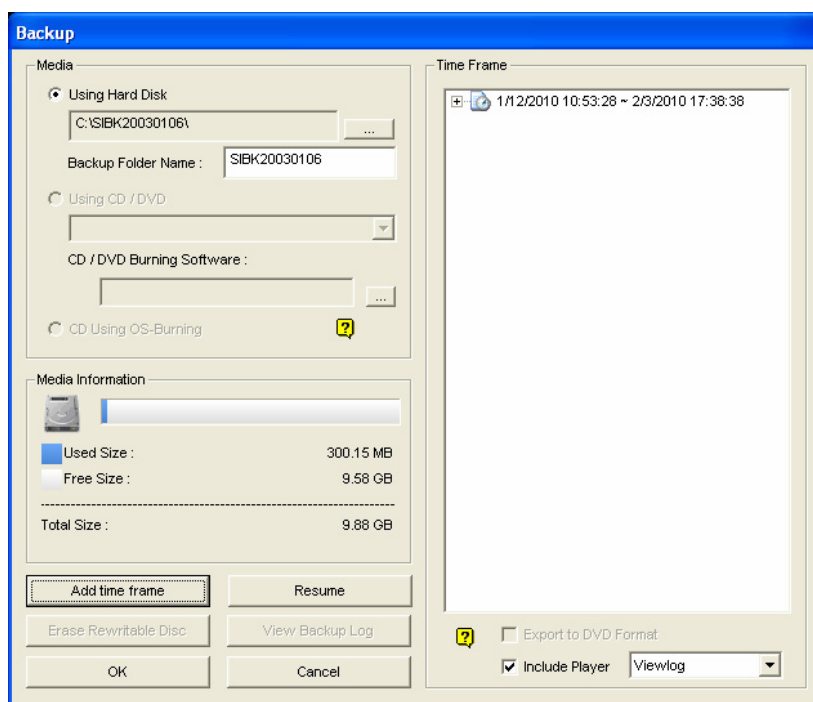

Figure 5-2
5. Click **OK**. The Backup dialog box (Figure 5-2) appears.
- Click the [...] button to assign the desired burning software (.exe file). When you click **OK** on the Backup dialog box (Figure 5-2), the system will ask you to paste the backup files to the CDR-Writer program, and call up the assigned burning software for you to paste and backup files.
2. The **Export to DVD Format** option, at the right bottom of the Backup dialog box (Figure 5-2), outputs your files in DVD movie format, meaning that it will play in any DVD player that supports writable DVD disks. To enable this option, MPEG2 files recorded by the GV-2004 Card / GV-2008 Card need to be selected first (see the Select Camera(s) option), and a DVD±RW disk is required as well.